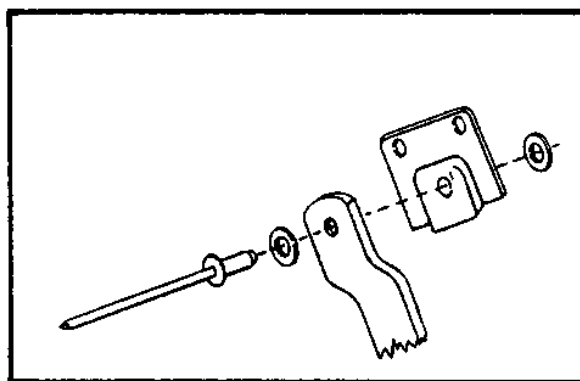

Figure 2.
2. See Figure 2. Reinstall brace to brackets by placing washers as shown in figure and securing with a rivet.